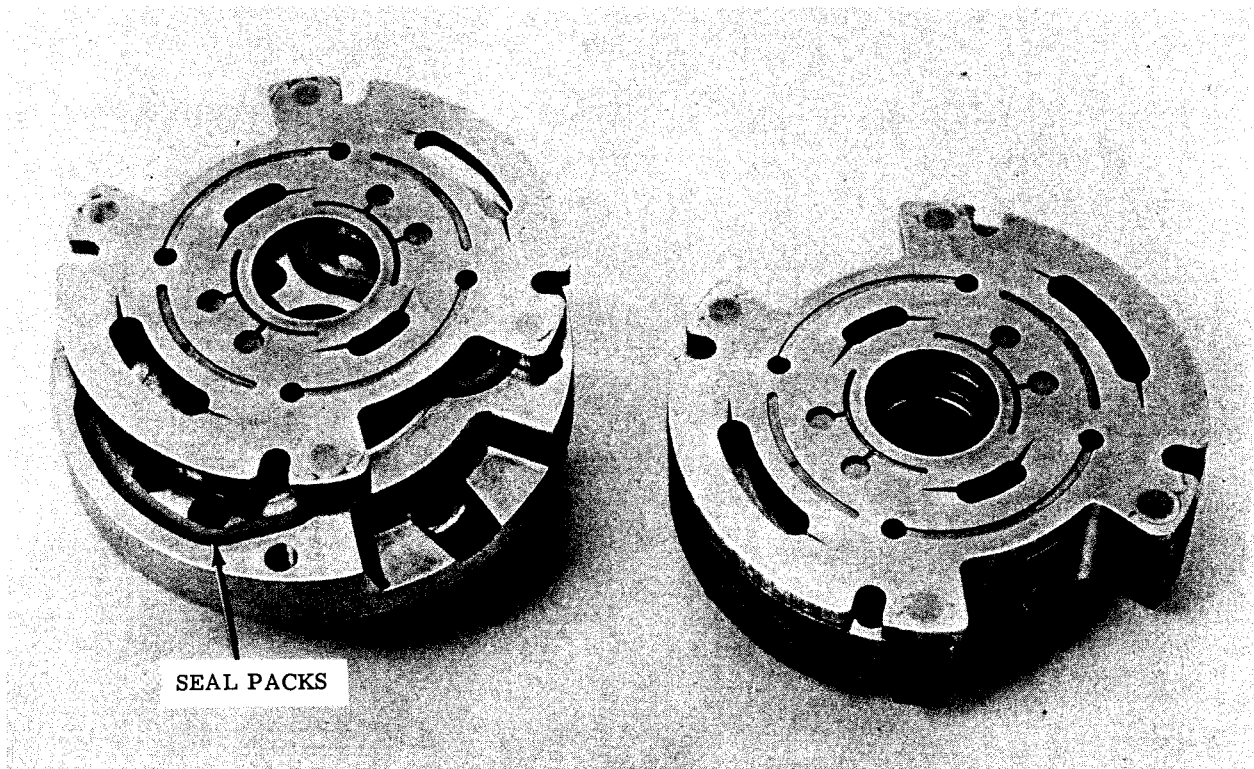

Figure 19 - Assembly of flex side plates over seal packs
a. Place the inlet and outlet support plates on a flat surface as shown in figure 19. Install seal packs into cavities with seal retainer surface up. ("O" rings facing downward into the cavities.)